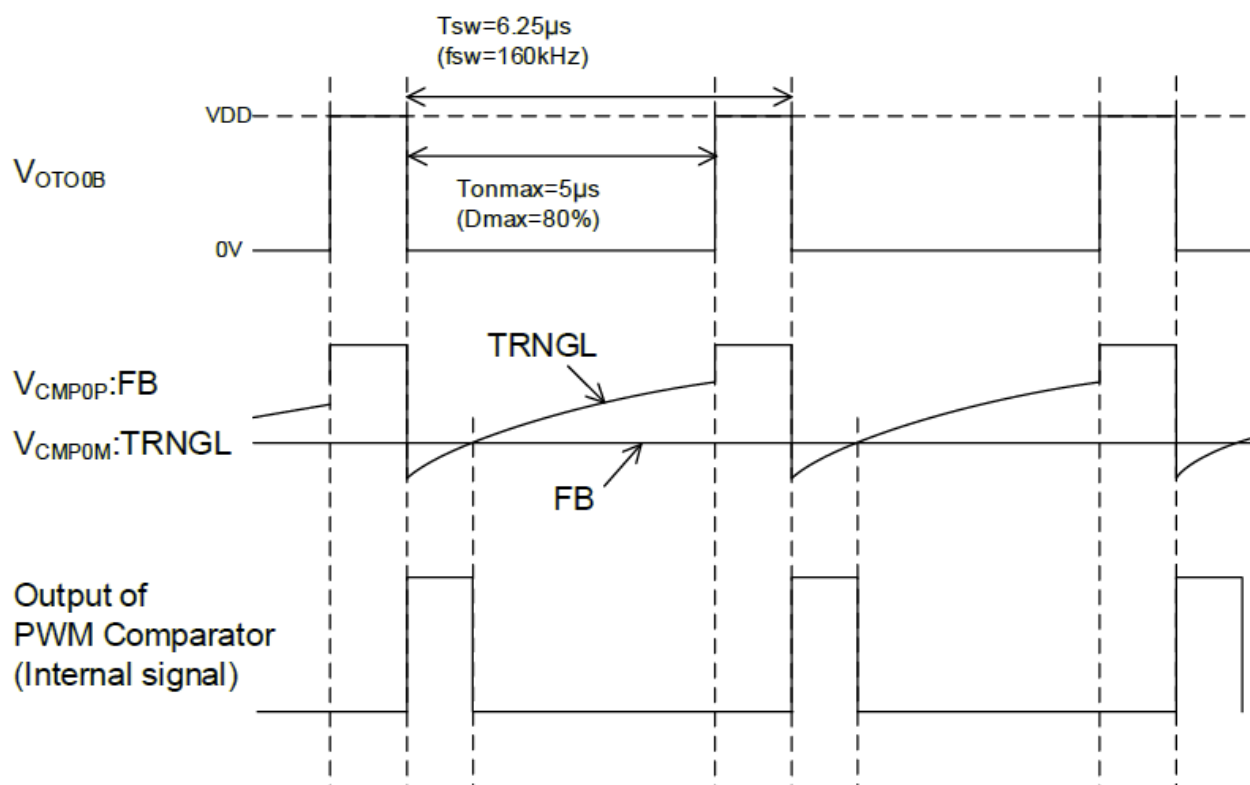

Figure 4-5. Triangle waveform generator timing chart
- As shown in Figure 4-5, the frequency of clock pulse output from P04/OTO0B pin is the switching frequency of the DCDC converter f_{sw} (160kHz). And while the output of the clock pulse is H, the voltage of TRNGL becomes also H, so the output of the PWM comparator is L. This leads that the L duty of the clock pulse is the Max Duty D_{max} (80% typ) of the DCDC converter.